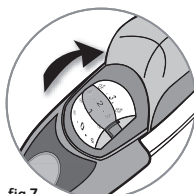

fig.7
- Adjust the amount of continuous steam output by moving the steam control lever (fig.7). See below table for recommended steam output levels.